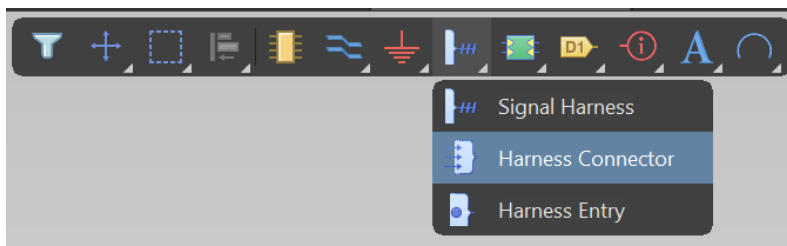

Figure 4. Placing a Harness Connector
15. From the **Place** menu, select **Harness**, then **Harness Connector**. This command can also be accessed by right-clicking on the icon from the *ActiveBar*, as shown in Figure 4.